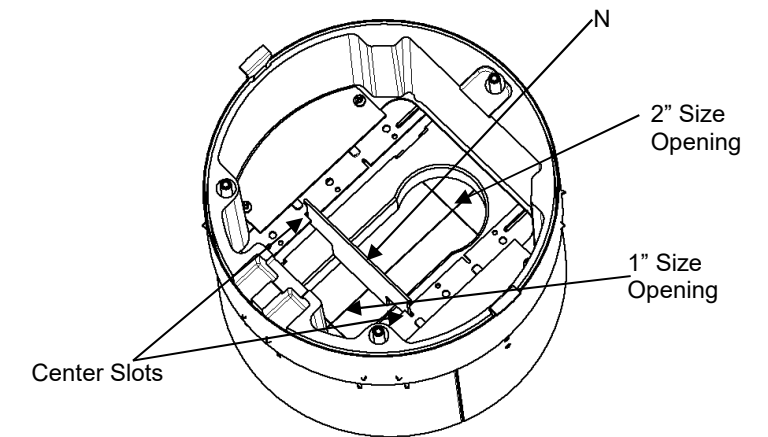

Fig. 7
10. Divider (N) is shipped with the fitting. Install divider (N) through the two center slots in the brackets to divide power and data services of poke-through as shown in Fig. 7. Install in divider slots closest to the smaller opening.